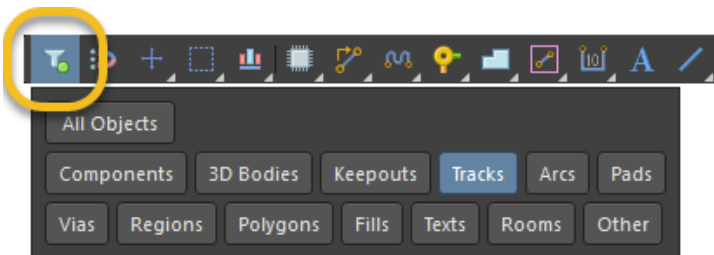

Figure 4. Active Bar Selection Filter for Tracks Only
7. For ease of selection, click the filter in the *Active Bar*, click **All Objects** to toggle all options off, then click **Tracks**, see Figure 4.